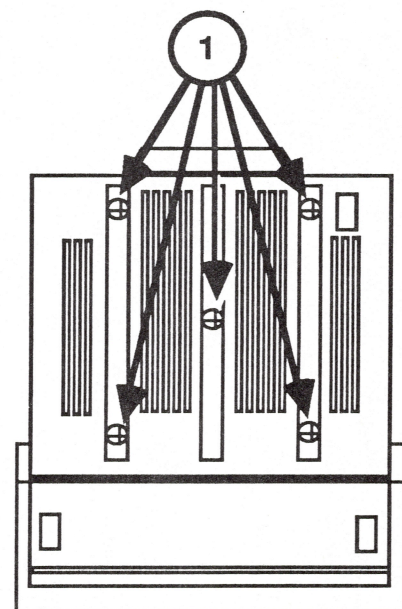

FIGURE 32
5. Replace the five screws (Figure 32, #1) at the bottom of the monitor.